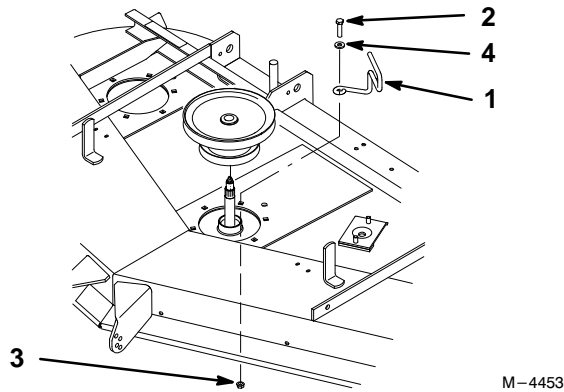

Figure 5
1. Remove existing carriage bolt and nut (Fig. 5)
IMPORTANT: Remove only this specific bolt to install belt guide (Fig. 5).
2. Install new bolt, washer, nut and belt guide (Fig. 5).
8. Install drive belt (Fig. 5).